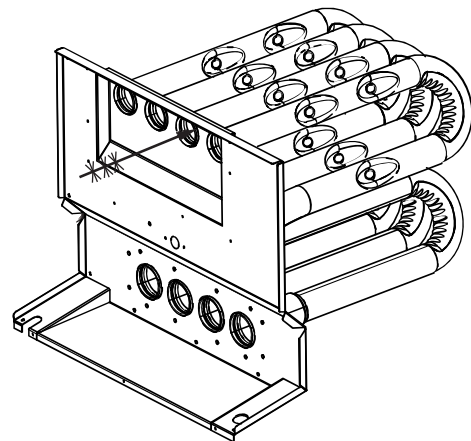

Fig. 68 – Cleaning Heat Exchanger Cell
7. Clean heat exchanger openings with a vacuum and a soft brush, see Fig. 68.